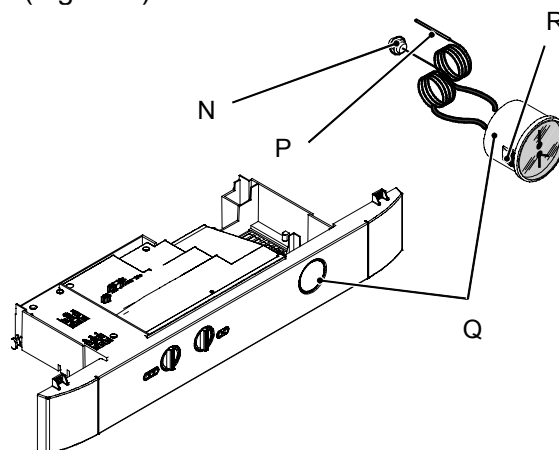

Figure 8
- 5) Squeeze the tabs R to release the temperature-pressure gauge Q and remove it (Figure 8).